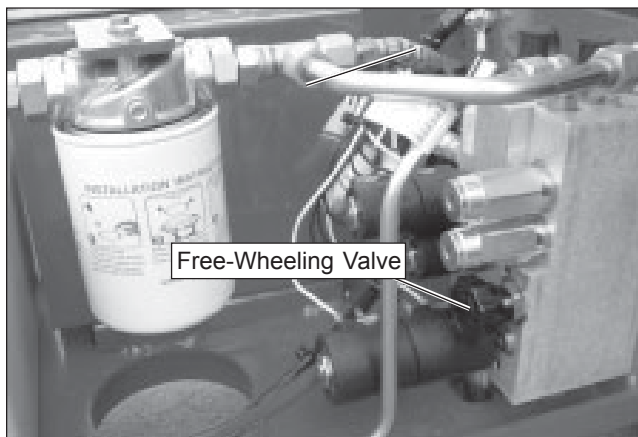

Figure 10.3 – Hydraulic Tray
6. Unlatch and swing out the hydraulic tray on the right side of the chassis. The free-wheeling valve is located on the hydraulic manifold (refer to Figure 10.3). Turn the free-wheeling valve counterclockwise to the fully open position.